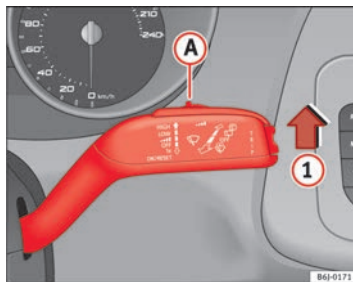

Fig. 64 Windscreen wiper lever
- Move the windscreen wiper lever into position ① ⇒ Fig. 64.
- Move the control (A) to the left or right to set the sensitivity of the rain sensor. Control to the right: highly sensitive. Control to the left: less sensitive.